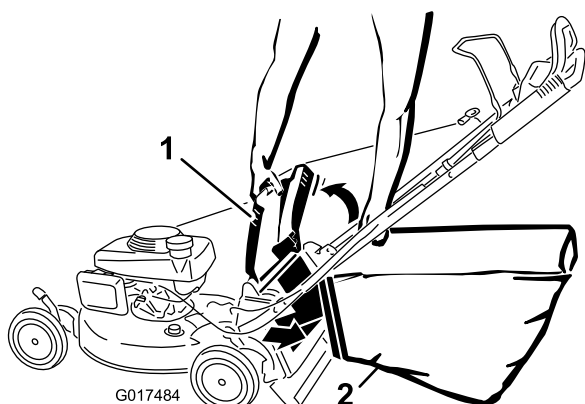

Figure 21
4. Hang the upper front edge of the bag on the notches (Figure 21).